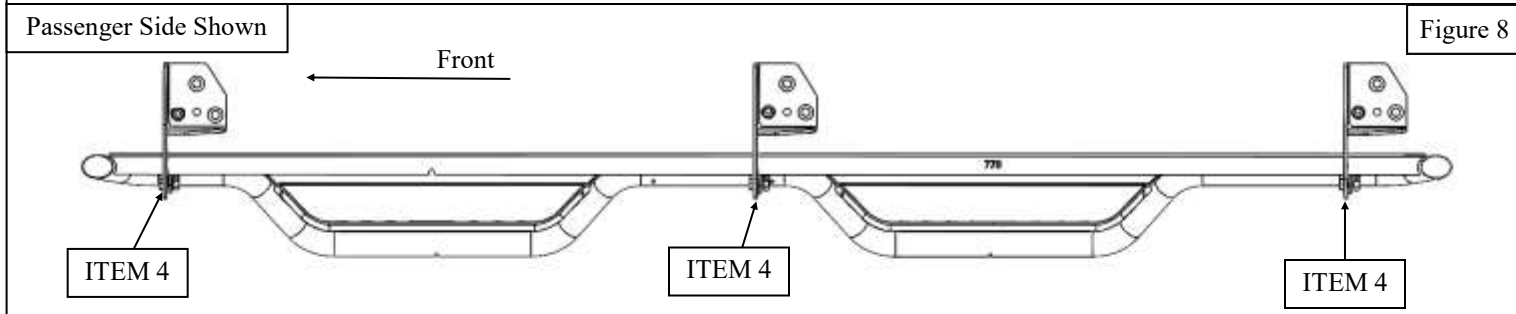

Figure 8
7. For the Outlaw Step Board installation, use the supplied M10 hardware to secure the step bar assembly to the previously installed mounting brackets. See **Figure 8** for reference.